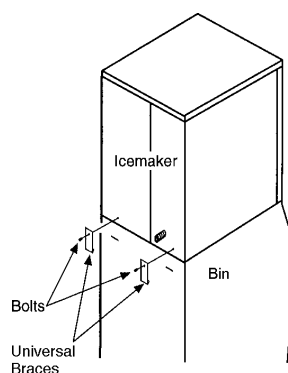

Fig. 2
- 4) Secure the icemaker to the Storage Bin, by using the two mounting brackets and the bolts provided. See Fig. 2.